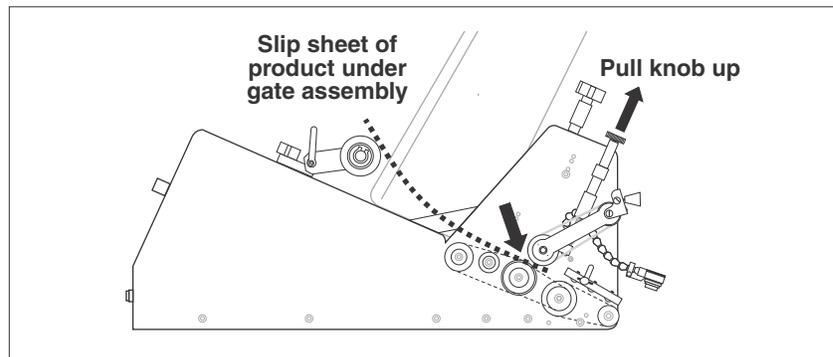

Figure 2-1. Lifting Gate Assembly Upward to Insert Material
1. Slide two pieces of sample material under the gate assembly. You may have to pull up on the adjustment knob to allow the material to be inserted (Figure 2-1).